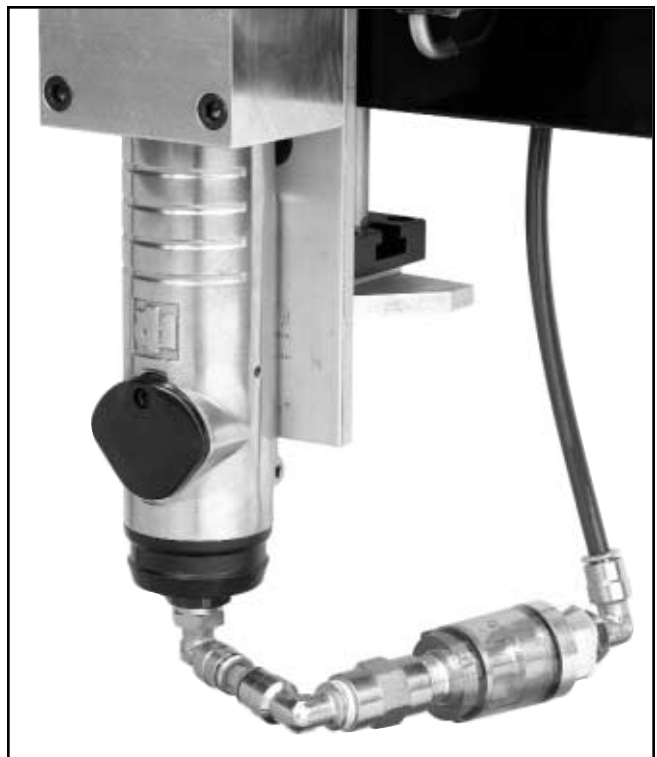

Figure 4 - Lubricator in horizontal operating position.
6. Return lubricator to horizontal position for operation. (see Figure 4)